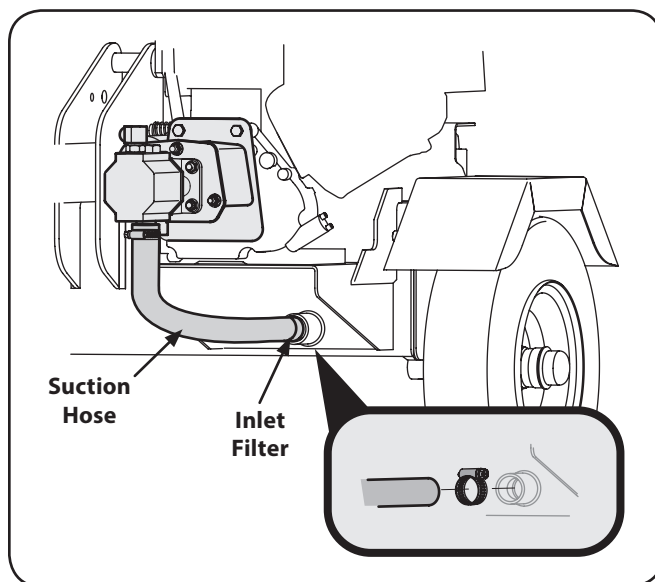

Figure 6-1
3. Carefully un-thread the inlet filter and clean it with penetrating oil. See Figure 6-1.